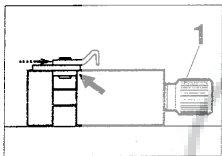

fig. 3
Position chain on the vice as shown in fig.3. Gently tighten vice by means of knob (1). Position the rivet